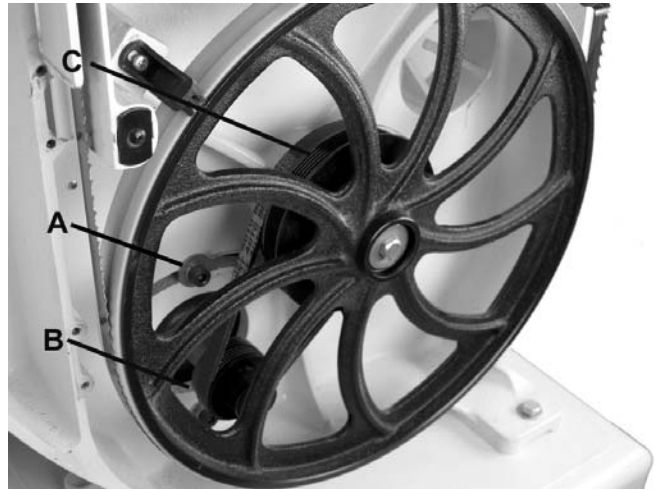

Figure 13
2. Open the lower door and locate the locking bolt (A Fig. 13). Loosen bolt using the provided 6mm T-handle hex wrench.
4. Tighten locking bolt (A, Fig. 13) to keep motor fixed and prevent from pinching fingers.
5. Move belt from one pulley to the next. The belt needs to be moved on BOTH idler pulley (C Fig. 13) and motor pulley (B Fig. 13). The belt should NOT be twisted across the pulleys.*